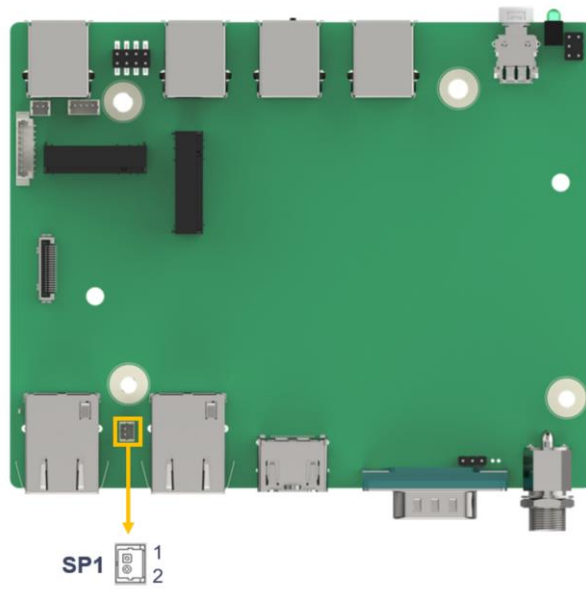

Figure 4-7: Buzzer Connector Location
- CN Location:**See **Figure 4-7**